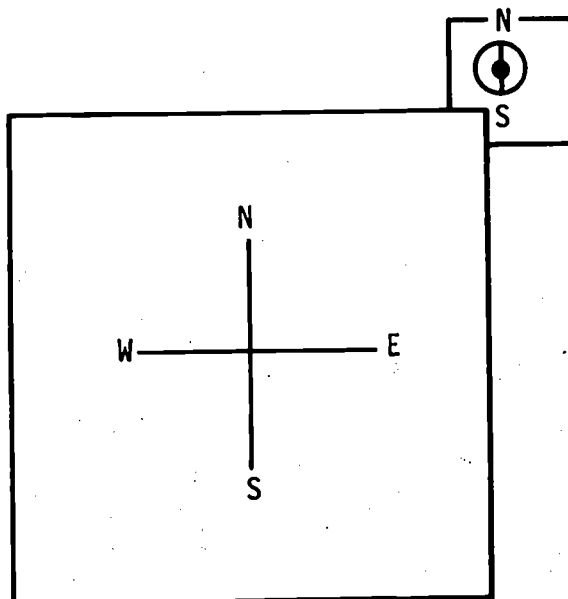

Fig. 7-4. Direction Circle in Place
7. Place the center of the direction circle over the monument (nail). Place the circle so that north and south line up with north and south on the monument board. See Fig. 7-4.